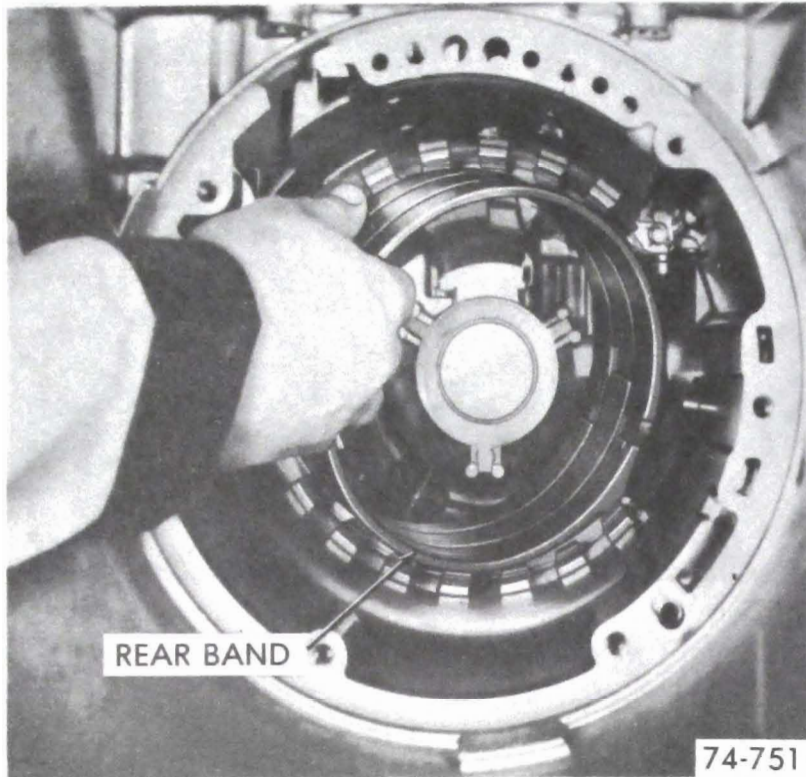

Figure 76-247
7. Install the rear band assembly so that the two lugs index with the two anchor pins. See Figure 76-247. Check band to be sure band ends are seated on lugs.